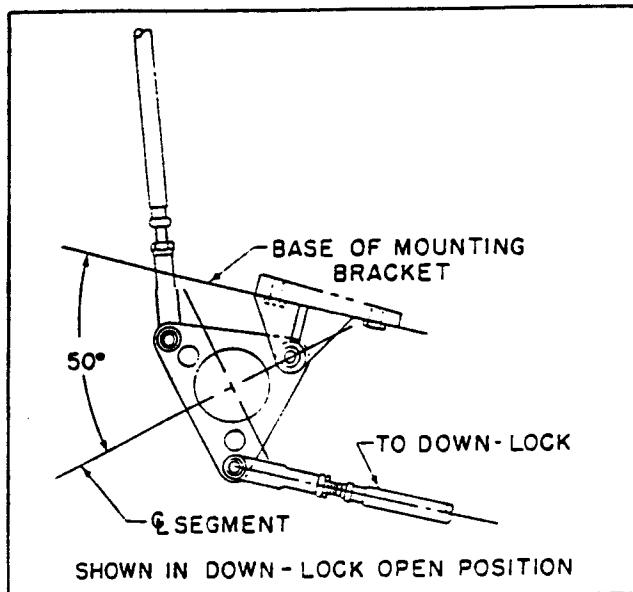

Figure 42. Rigging Nose Gear Normal and Emergency Control Cables
g. For degree of segment see figure 42.